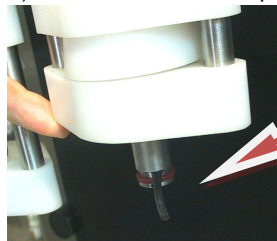

fig.7
a) Do leave the two taps opened through the part of o'-ring that is provided (fig. 7) .